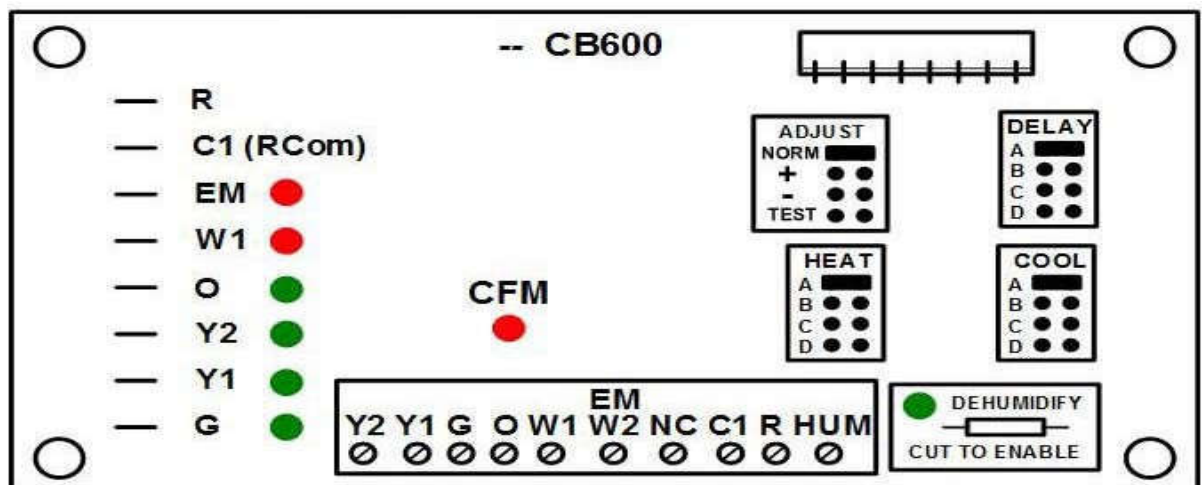

FIGURE 5. - SELECT CONTROL BOARD
- The delay profile is factory set on setting (A).
- HEATING SELECT TAP Select system airflow for cooling / heat output. (See Figure 5).
- ADJUST SELECT TAP Select system CFM airflow requirement. (See Figure 5).
- DELAY SELECT TAP Select desired delay profiles. (See Figure 5).